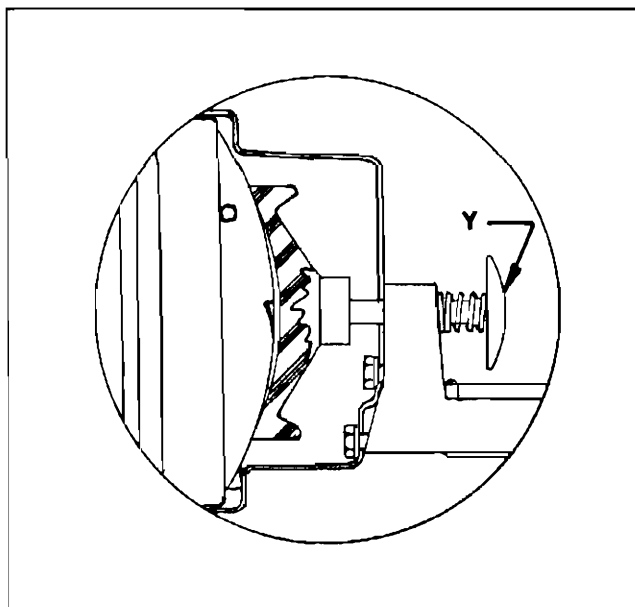

Fig. 11-121 Cross Section of Aimer Installed
4. Secure aimer to headlamp unit by pressing knob "Y" (Fig. 11-121) firmly. Rotate cross arm to approximately horizontal position.